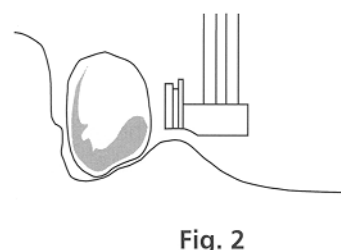

Fig. 2
2. Using your surveyor, position the female against the waxed abutment pattern (coping, crown or apron for bonding). The preferred placement is over the crest of the ridge or slightly lingual to it. Also place the female close to, but not in contact with, the tissue. The gingival offset of the eyelet helps to maintain the embrasure space (Fig. 2).